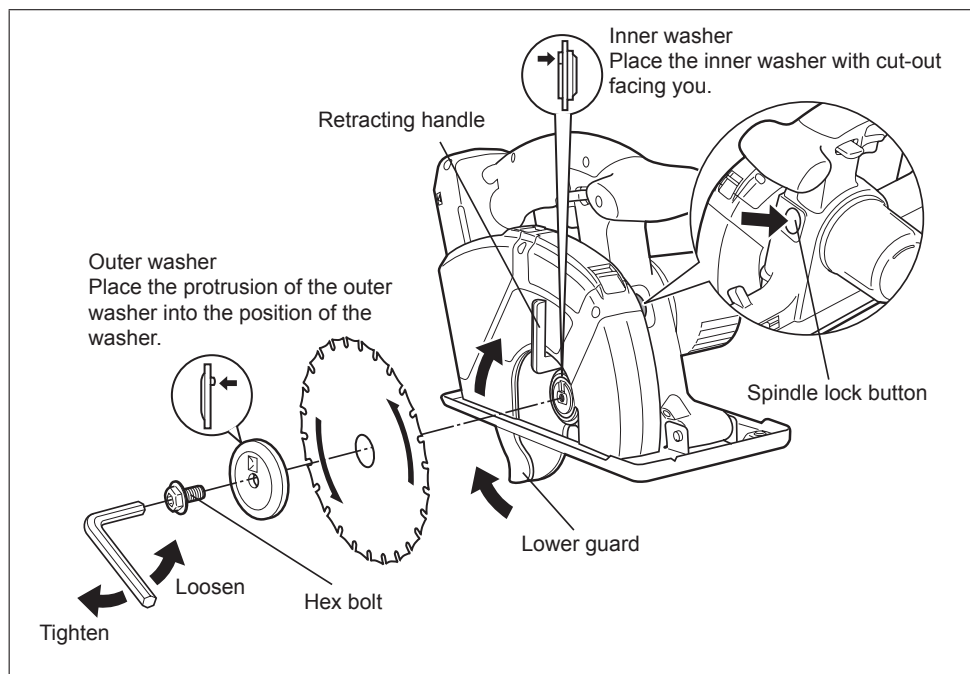

Fig. 6
Make sure the hex bolt is tightened securely. (See Fig. 6)
4. Install the blade as illustrated. (See Fig. 6) Make sure that both the direction arrow on the blade and the direction arrow on the transparent guard point in the same direction.